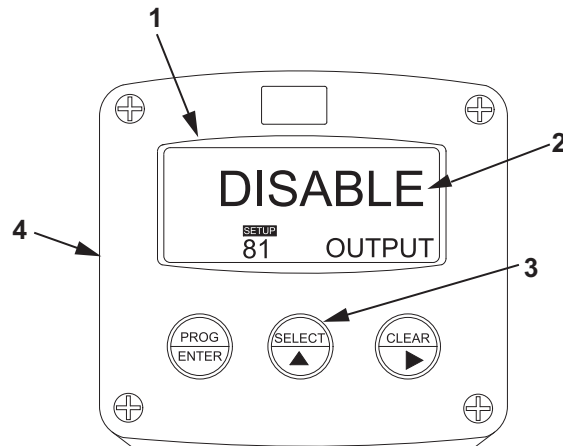

Figure 38. DISABLE Display.
- b. Verify that DISABLE (Figure 38, Item 2) appears on the display screen (Figure 38, Item 1). If DISABLE (Figure 38, Item 2) does not appear, perform the procedure to program tank volume meter monitor settings and select DISABLE (Figure 38, Item 2).
- c. Press the SELECT key (Figure 38, Item 3) on the tank volume meter monitor (Figure 38, Item 4) seven times.